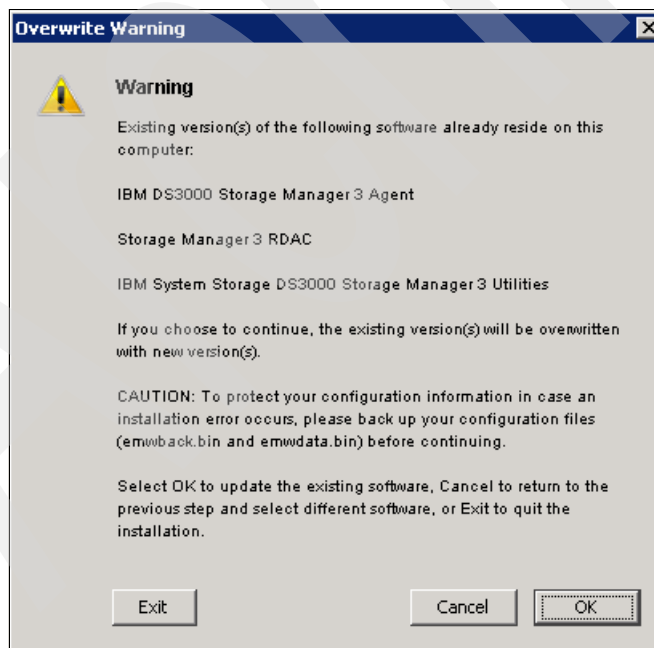

Figure 6-9 Overwrite Warning
9. If a version of Storage Manager is already installed, you will see the warning shown in Figure 6-9. You can select to overwrite the existing installation or to cancel at this point. Click **OK** to continue. If you do not have Storage Manager already installed, you do not see this warning.